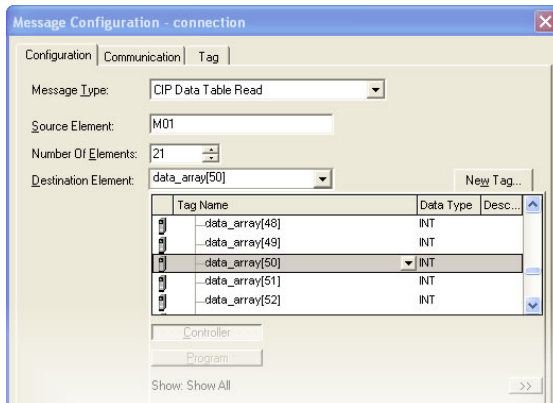

Figure 99: Selecting the Destination Element
- iv) For the Destination Element, either directly type in "data_array[50]", or select element #50 in the data_array tag via the drop-down box (refer to Figure 99). The destination could be any offset in the data_array tag, as long as the offset plus the Number Of Elements (21) does not exceed the tag's defined size (73).